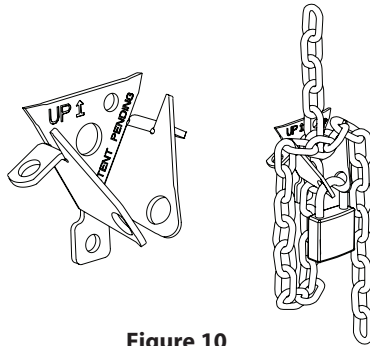

Figure 10
- 5) Loop chain around keeper as shown. **Fig. 10.** Optional Padlock not provided.